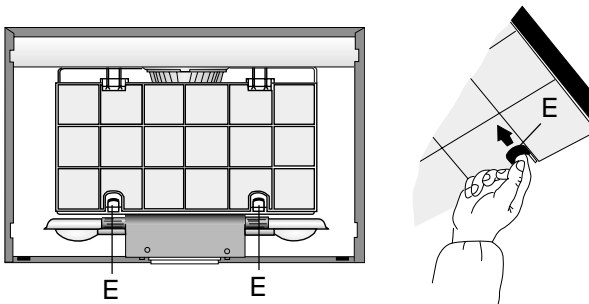

Fig. 3
Insert the charcoal filter into the lugs of the frame above using the 2 red lugs **E** to retain it, press the red lugs inwards, and insert the charcoal filter in the frame. **Fig. 3**.
- Press both red lugs **E** upwards (towards the inside of the housing) and remove the charcoal filter downwards. **Bild. 3**.